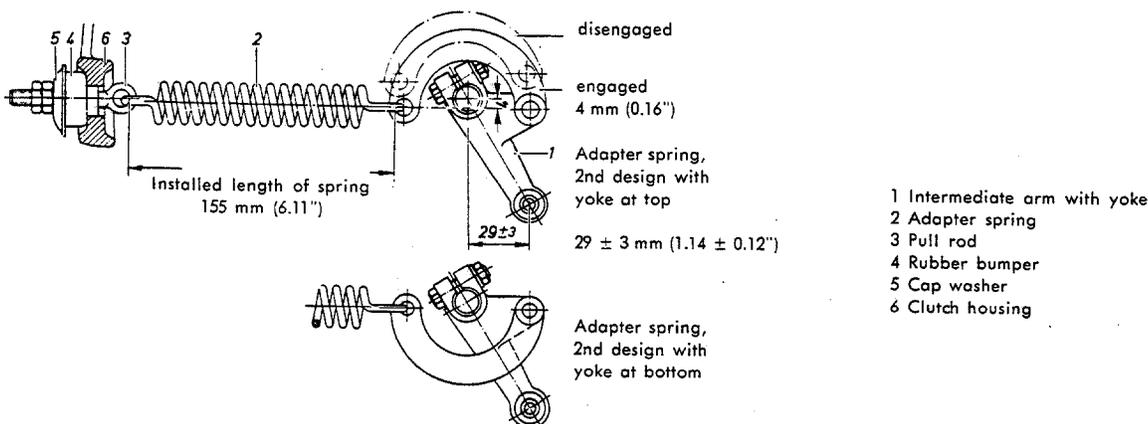

Fig. Ku 6a/7
**Note:** The yoke to the intermediate arm has been shifted to the bottom to avoid that the hand brake cable rubs at the yoke. If required, the intermediate arm with yoke at top can be exchanged for an arm which has the yoke at the bottom (see Fig. Ku 6a/7).